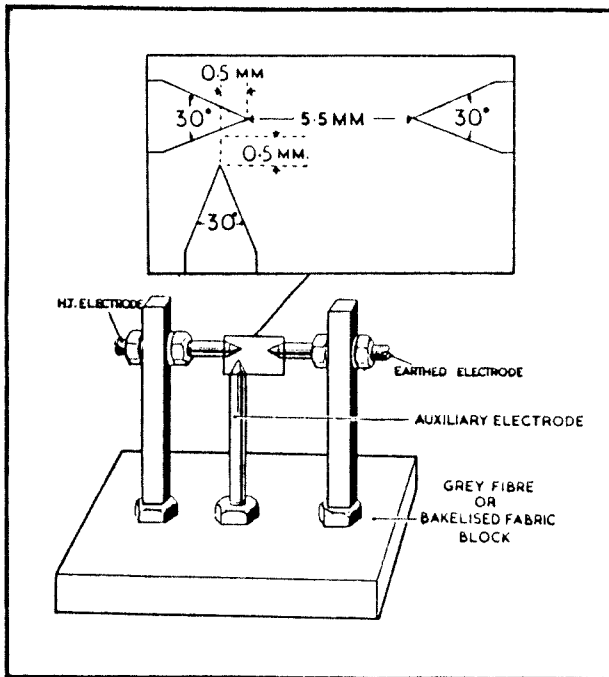

Fig. 7.
- (iii) 3-point spark gap (see Fig. 7).